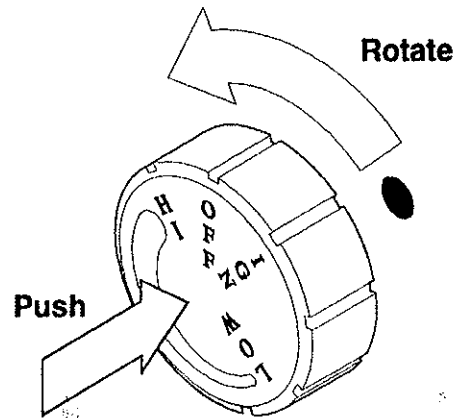

FIGURE 15. Control Knob
6. Turn the gas control knob counterclockwise  to the IGN position (FIGURE 15). Push in and hold control knob for 5 seconds.